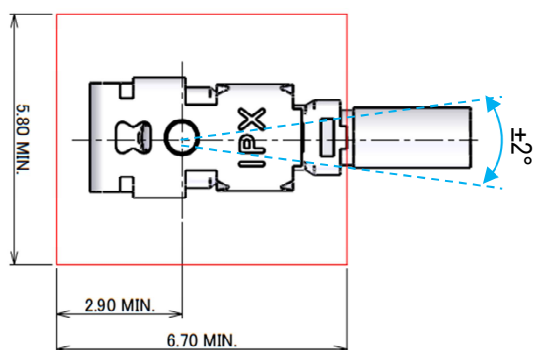
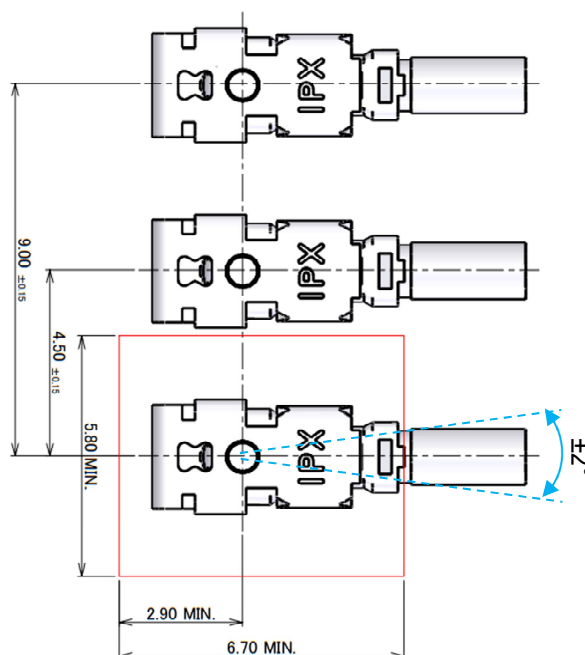

Figure 36
Figure 37
- Secure the space as shown in Figure 36 for the jig operation. Figure 37 is the layout of MHF 4L LK Harness in pitch 4.5 mm. The  $4.5 \pm 0.15$  mm pitch layout enables jig access.